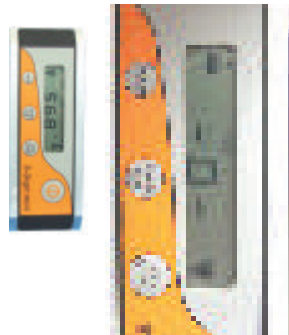

Figure 24
(1) Turn on the instrument and put it on a smooth and vertical benchmark surface I, as shown in figure 24. The two side surfaces of this benchmark should be as parallel as possible, such as glass door or window. Press “Zero calibration” key for more than 3 seconds, the LCD will display “-0-“, and now it means the instrument has entered the calibration state.